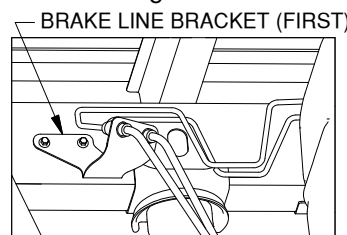
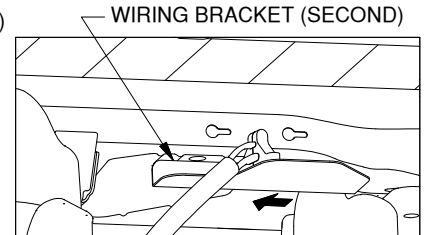

Figure A3.
Figure A4.
8. **Un-attach brake and wiring brackets.** Two brackets are attached to the frame in locations that will interfere with the installation. Using a 10mm socket or wrench un-attach these brackets and allow to hang during installation. These brackets will be re-attached when the installation is complete. The first bracket holds two brake lines on the inside of the driver side frame just behind the rear axle, see Figure A3. The second bracket holds wiring and is attached to a rectangular frame cross member in front of and above the differential. Loosen the connection and slide the bracket to the driver side and unhook from frame. Allow to hang, see Figure A4.